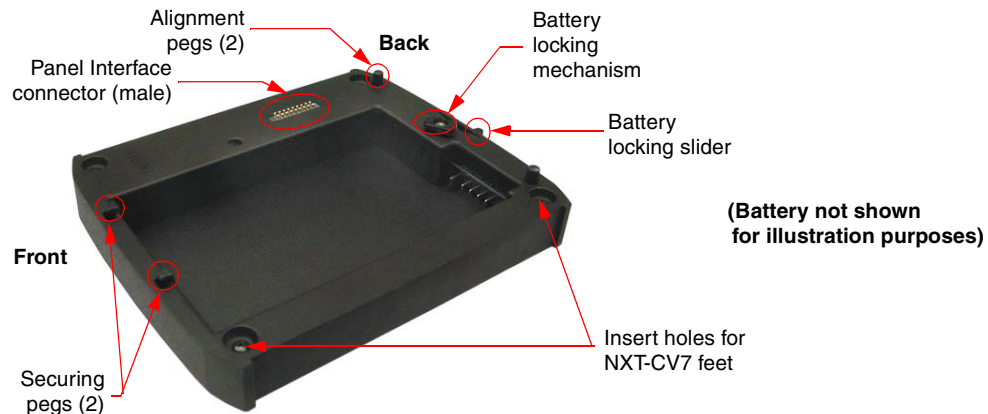

FIG. 28 NXA-BASE/1 showing Panel Interface and connector locations
3. Turn the battery locking slider (FIG. 28) to one side until the locking mechanism is horizontal to the base (going left to right) and the rear battery latch is pointing directly outward (away from the LCD).
1. Insert the single battery into the battery compartment shown in FIG. 28 on page 29.